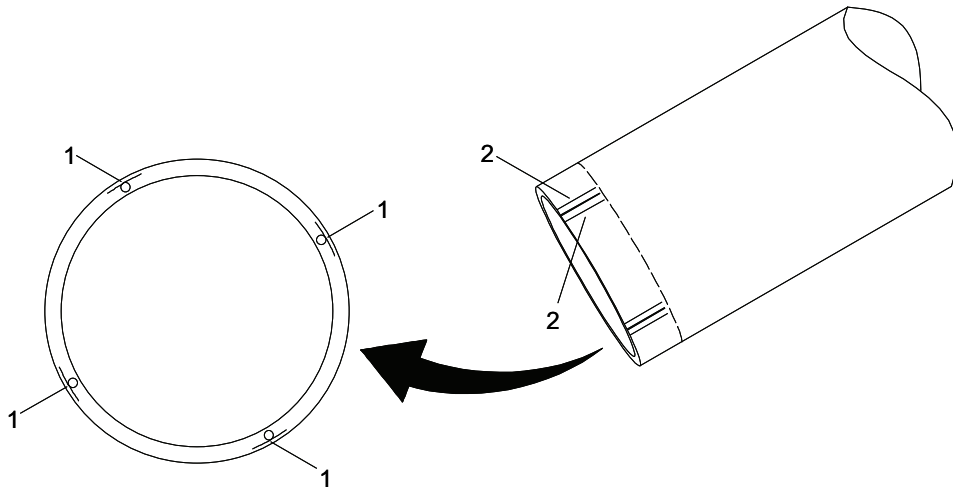

Figure 16. Hose Assembly Repair.
8. Using a knife, cut the hose assembly fabric (Figure 16, Item 1) at the open end of the hose assembly approximately $\frac{1}{4}$ in. deep between the two lengthwise (Figure 16, Item 2) cuts previously made.